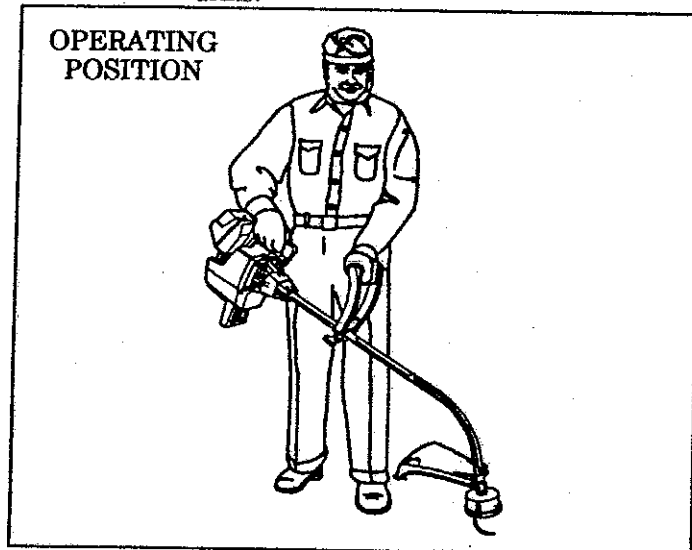

Figure 8
Failure to install the shield in the position shown in Figure 8 can result in serious injury to the operator. The length of the shield must be aligned with the length of the drive shaft housing. Direct the widest part of shield toward engine. Figure 8.
- a. **Before starting the engine**, stand as shown in Figure 8 and check for the following: